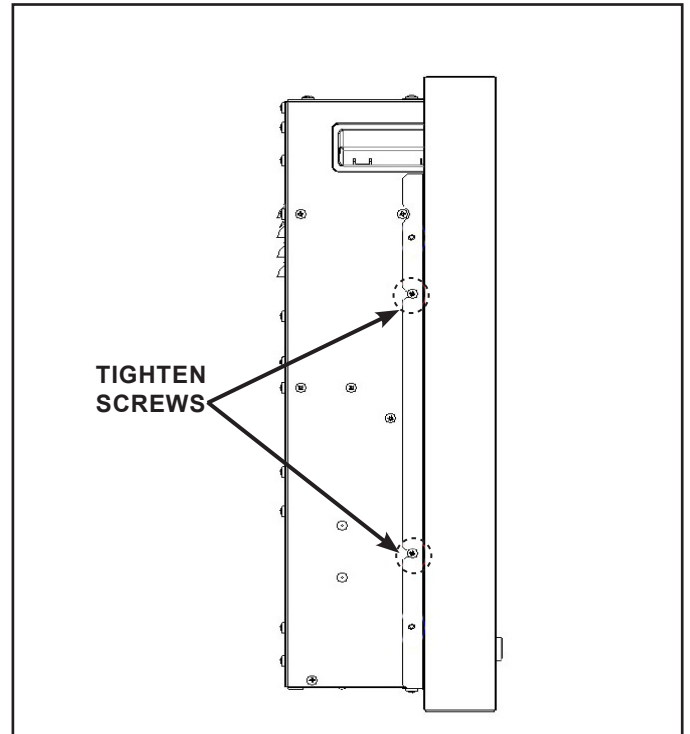

Figure 4 Secure Side Trim Skirt to Appliance
4. Tighten the screws loosened in Step 2 ensuring the slots are seated tight against the screws. See Figure 4.